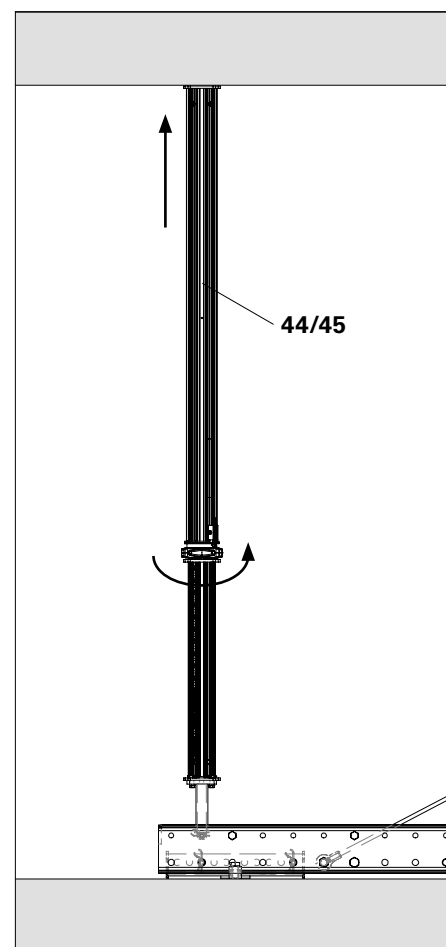

Fig. B1.02d
3. Spindle out the MULTIPROP MP (44/45) and press against the concrete slab. (Fig. B1.02d)